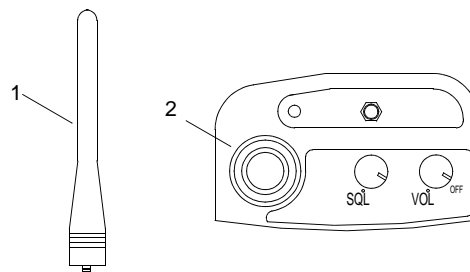

Figure 11. Antenna Installation
3. Install antenna (figure 11, item 1) in transceiver antenna receptacle (figure 11, item 2).